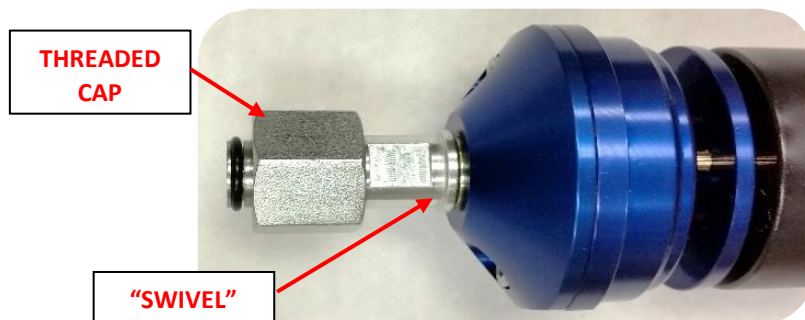

Figure 21 - Internal Pilot Line Connection Plug
- b. Remove the threaded cap from the internal pilot line JIC connection – refer Figure 21. **Ensure the threaded plug for the external pilot line is installed (sealed)** – refer Figure 2.
- a. **Confirm the threaded cap on the internal pilot line connection is secured** – refer Figure 21. Do **NOT** install the Level Sensor if this cap is absent or loose (unsealed or leaking).